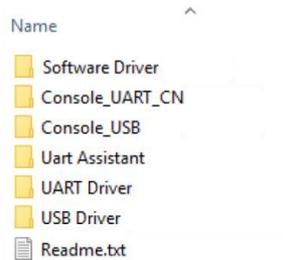
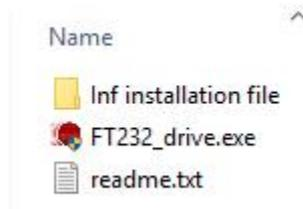
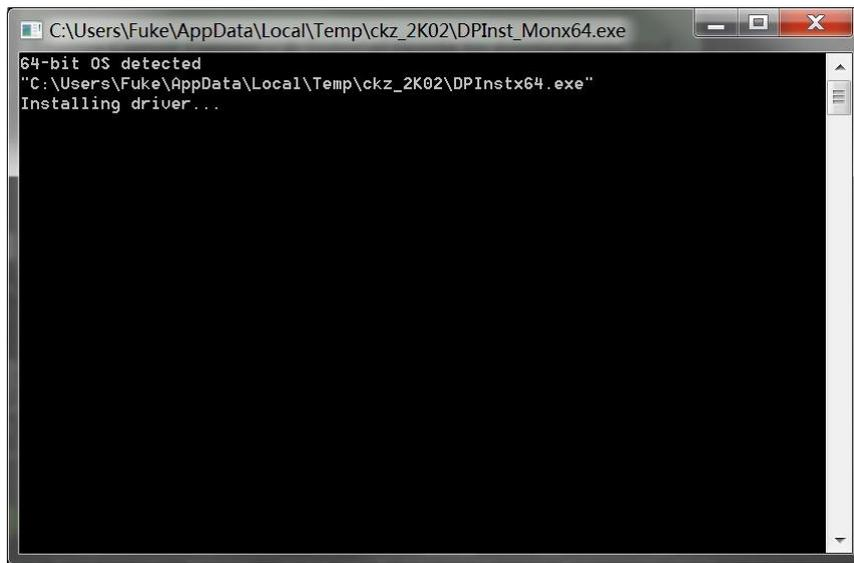

Fig.43 Software Files
Fig.45 "Uart Driver" Files
Fig.46 FT232 Driver Installing Interface
The required software is provided with the CD disk as below in Fig.43.
Open file 'Uart Driver' in Fig 43, as shown in Fig.45.
Double-click the file "FT232_drive.exe" in Fig 45 and then you can see the Fig.46, which shows the installation is running.
3. If installation failed, user could use the 'inf installation file' in Fig.45 to install. For more details, please read the 'readme.txt' file.
Open the fourth file 'USB Driver' in Fig.43, as shown in Fig.48.